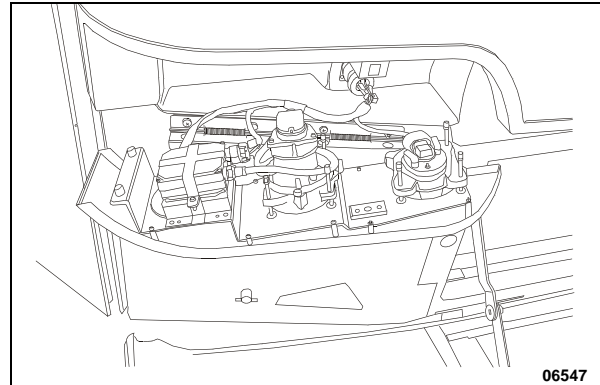

FIGURE 66: OPENING HEADLAMPS ASSEMBLY
Horizontal and vertical aiming of each headlamp module is provided by two adjusting screws that pivot the module in the housing for proper alignment (Figure 66).
2. Remove the screw fixing the headlamps assembly, then tilt headlamps assembly down (Figure 66).